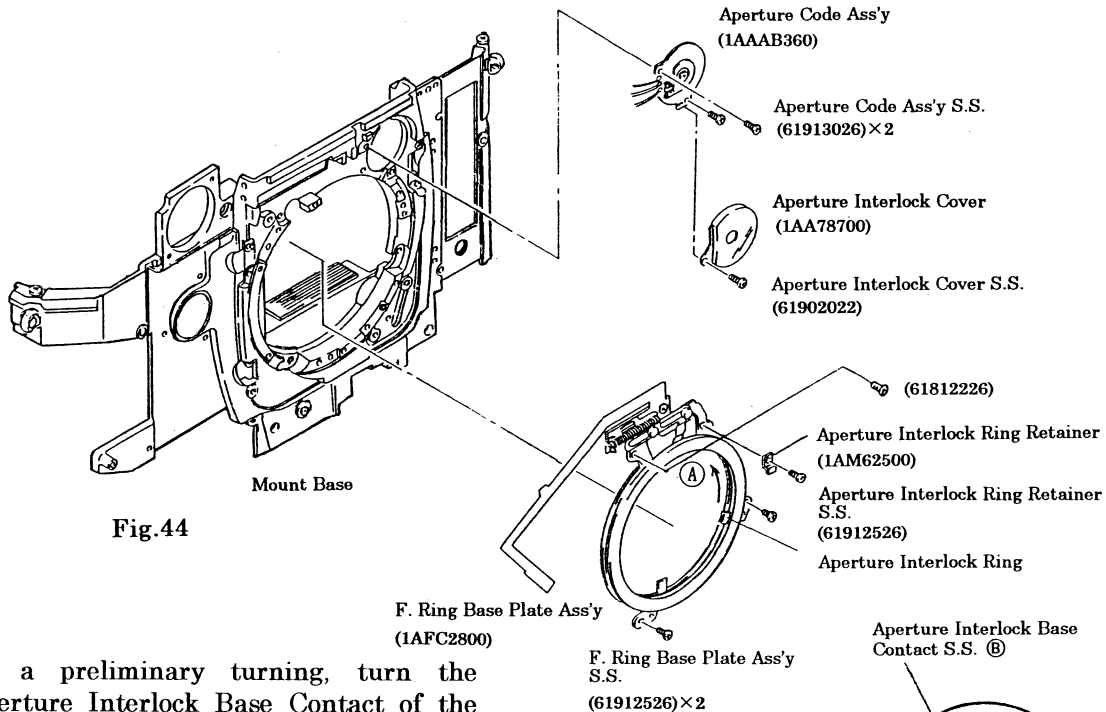

Fig.44
- 3) Move the Aperture Interlock Ring of the F. Ring Base Plate Ass'y in the direction of the arrow ① (in the direction of aperture opening) and keep it there. (See Fig. 44)